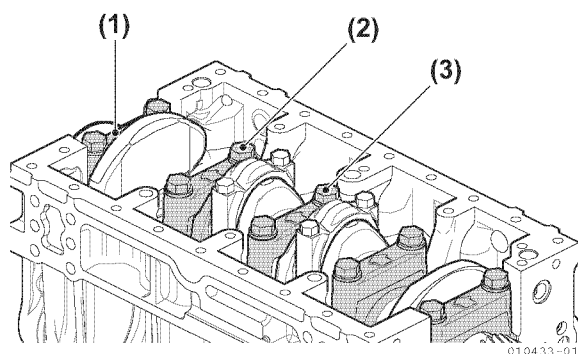

Figure 5-53
50. Remove the main bearing bolts (Figure 5-53).